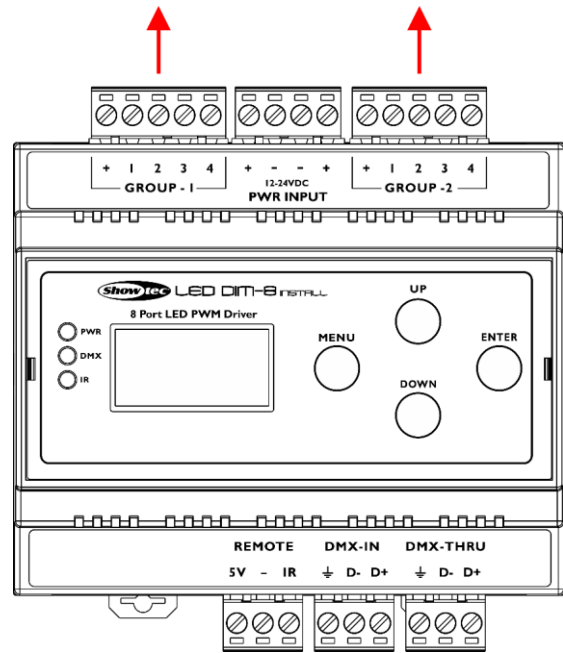

Fig. 07
- 01) Remove the 2 **5-pin Phoenix terminal LED strip connectors OUT (01/04)** (see Fig. 07).